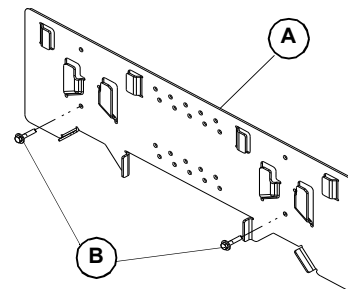

Figure 2. Install Foot Bracket
2. See **Figure 2**. Locate structural members to mount foot bracket (A). If structural members are greater than 16 in apart, install cross brace to ensure mounting to a solid structure.
3. See **Figure 2**. Install foot bracket (A) using lower holes with fasteners and washers (B) making sure bracket remains plumb and level.